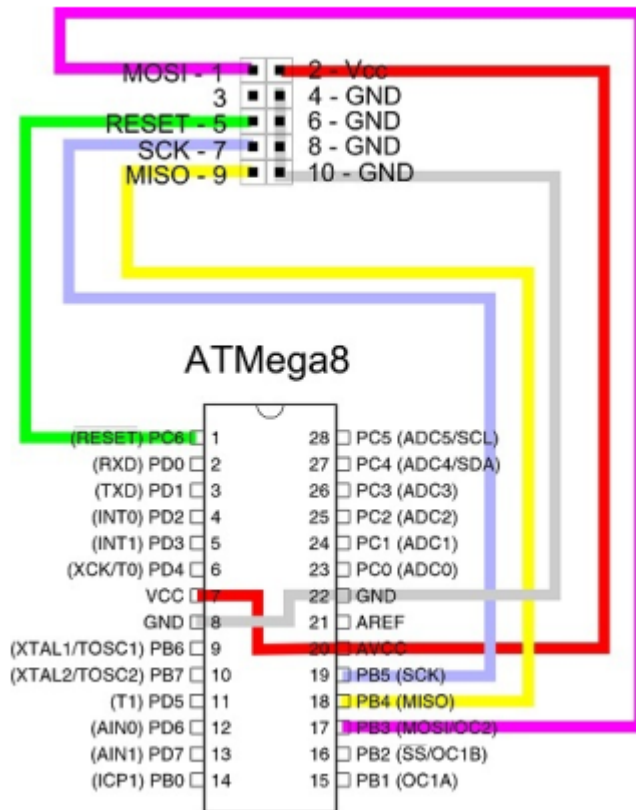

Figure 1: Microcontroller to In-System Programmer Connections
Consider now three registers associated with a physical port of 8 pins in AVR. See Figure 1, wherein data bus and control bus are not shown explicitly. Out of these three, two are data registers, one for input and another for output. The third one is for control (or configuration). These registers are analogous to the registers in the PIC (Peripheral Interface Controller). Recall the memory mapped I/O concept described in the class. Hence, a small address range is reserved for picking up these registers corresponding to this particular x th peripheral. This solves the addressing (**first**) problem.
In the Figure 1, the buffer gates have o/p enable pin making it as a tri-state device. The inverter in the circuit, ensures whether the targetted hardware pin can be either input or output at a time. (Addressing ensures the selection of this port x, out of the 3 such ports in AVR).
1. Wire the Atmega8 processor in the breadboard with AVR Programmer as shown in Figure 1.